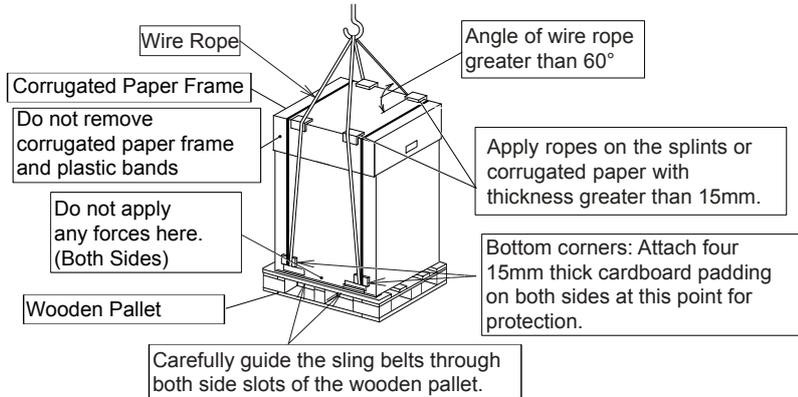

Fig. 2.1 Hanging for Transportation
- (1) Do not remove any packing materials.
- (2) Hang the unit with packing by two wire ropes as shown in Fig. 2.1.